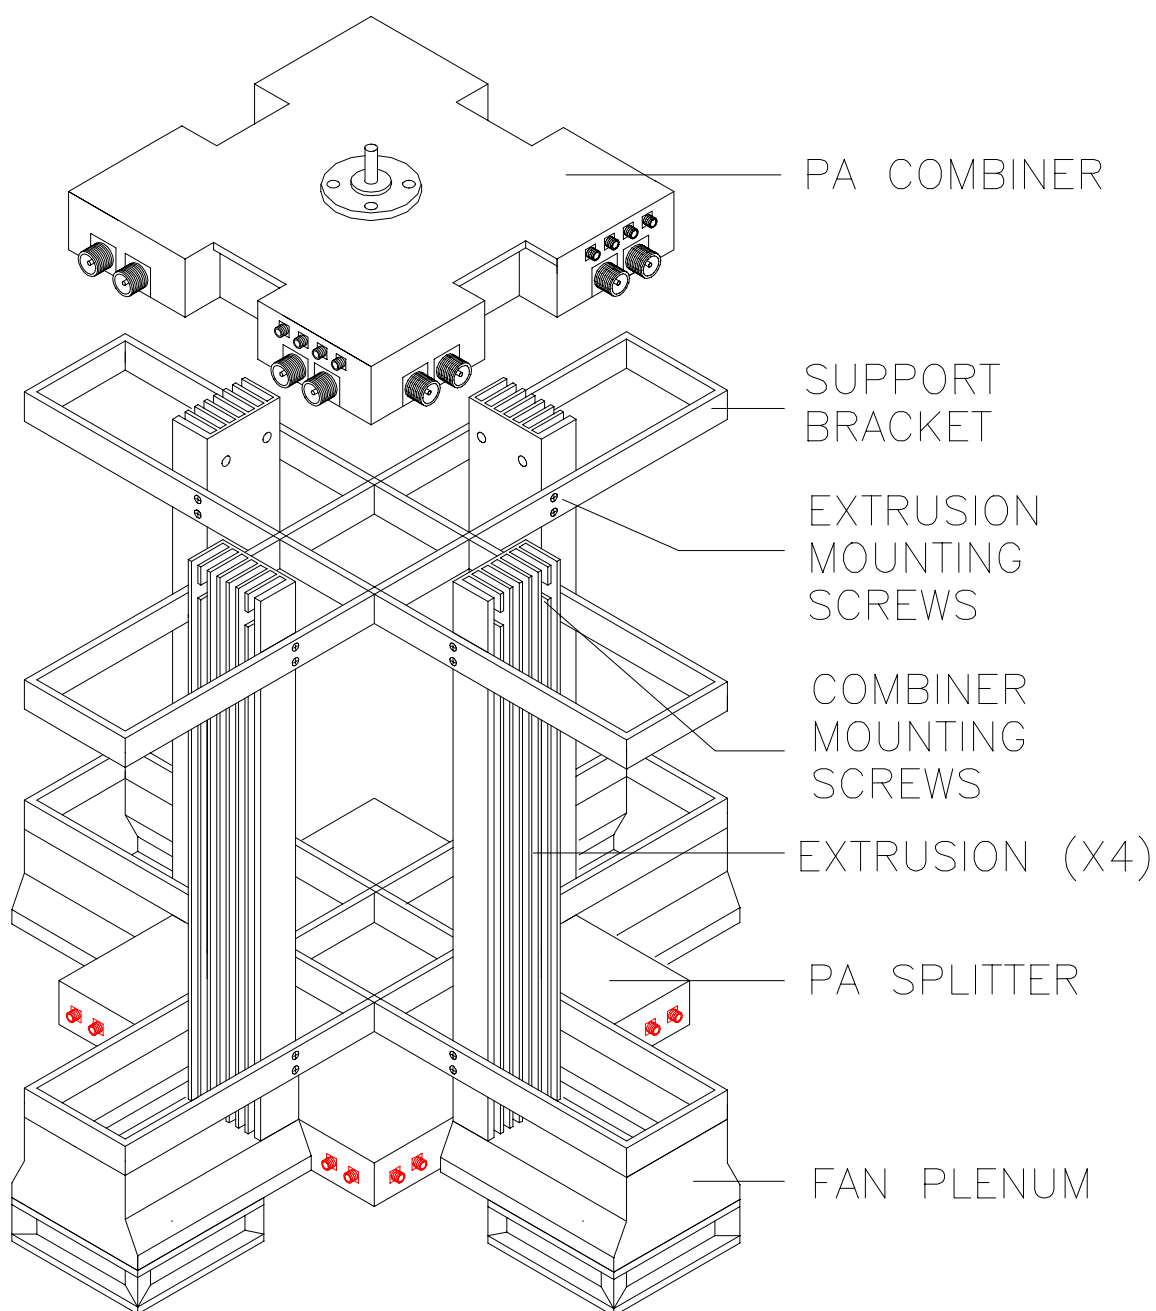

Figure 6-15 16-Way Power Combiner Installation
8. Remove the eight hex-head screws that attach the Combiner to the four aluminum heat sink extrusions (see Figure 6-15).
10. Remove the screws that attach the heat sink extrusions to the structural cross members and remove the extrusions from the PA Cabinet (see Figure 6-15).